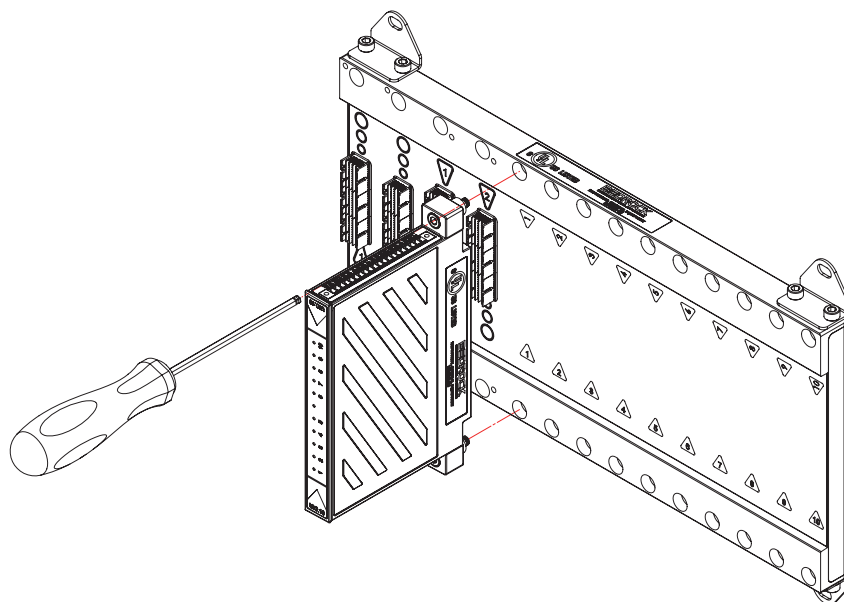

Figure 10-13 Install an SIO Module onto BMI
1. Install the required SIO modules into any numbered location (1 through 5, 10, or 20) on a 5-slot, 10-slot, or 20-slot BMI marked for installation as shown in Figure 10-13.
2. Hand tighten screws with 4 mm ball end hex driver as shown in Figure 10-13.